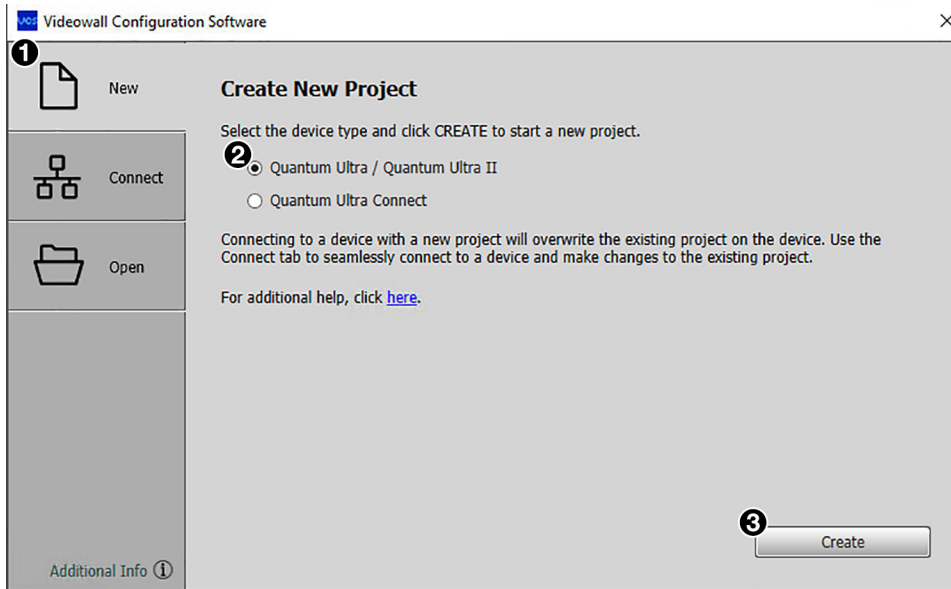

Figure 2. VCS Start Screen, Create New Project Tab
3. Click the **New** tab to open the Create New Project tab (see figure 2, ❶).